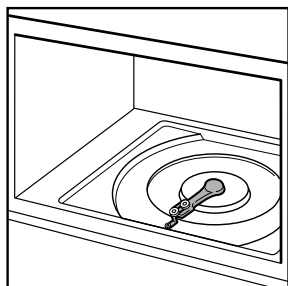

Figure 1
1. Place the guide tray on the oven cavity bottom. The rollers on the shaft should fit inside the guide tray bottom groove. (see figure 1, 2-1, 2-2)